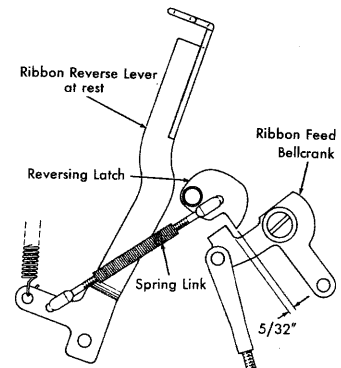

Figure 50. Ribbon Spring Link Adjustment
5. Adjust the spring links so that, in the supply position with the pawls disengaged, the reversing latches clear the path of the ribbon feed bellcranks by about $\frac{5}{32}''$ (Figure 50).